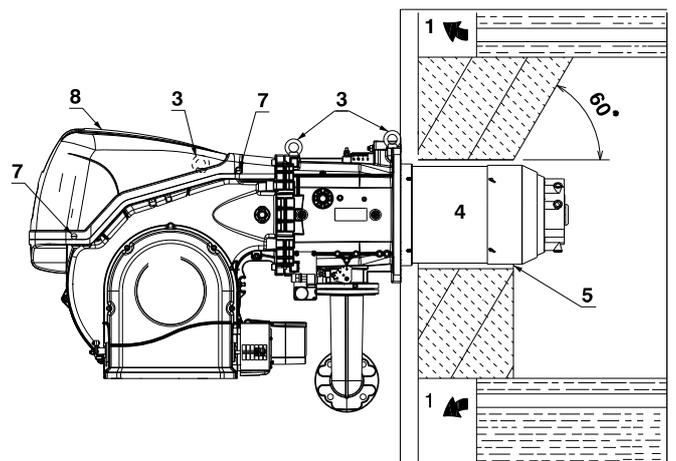

Fig. 16
For boilers with front flue passes 1)(Fig. 16) or flame inversion chamber, a protection in refractory material 5) must be inserted between the boiler fettling 2) and the blast tube 4).
For boilers with a water-cooled front piece, a refractory lining 2)-5)(Fig. 16) is not necessary, unless expressly requested by the boiler manufacturer.
Prepare a suitable lifting system using the rings 3)(Fig. 16), after removing the fixing screws 7) of the casing 8).
- Fit the heat insulation supplied onto the blast tube (4)(Fig. 16).